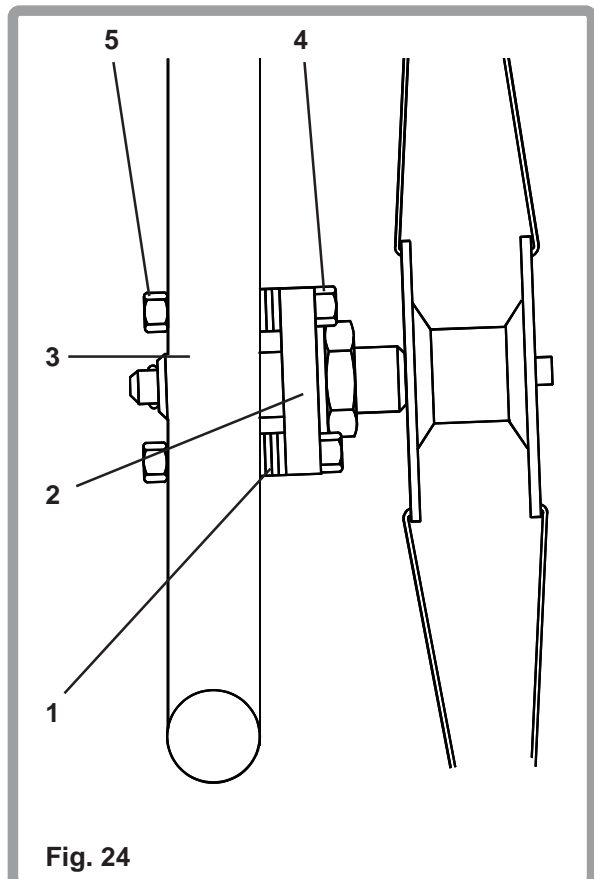

Fig. 24
Wheel camber (Fig. 24) is preset at the factory at 2°. More or less camber can be obtained by increasing or decreasing the number of camber washers (1) located between the bottom of the axle plate (2) and frame (3). The 10mm A/F retaining bolts (4) and nuts (5) must be removed, the required number of washers inserted and the retaining bolts and nuts replaced and tightened to 8-10Nm torque.